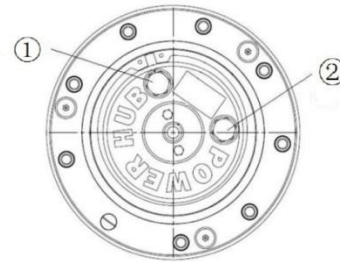

Figure 1-9 Traveling Gearbox
- Drive the machine until one plug is located at the horizontal position as shown as shown in Figure 1-9.